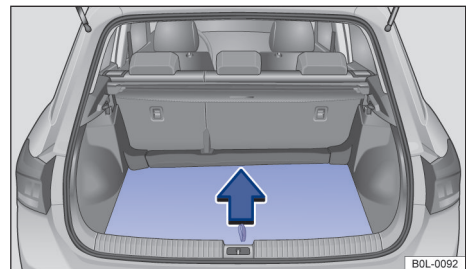

Fig. 116 In the luggage compartment: opening the luggage compartment floor.
- Grab the ring handle → Fig. 116 on the luggage compartment floor and lift the the luggage compartment floor upwards.